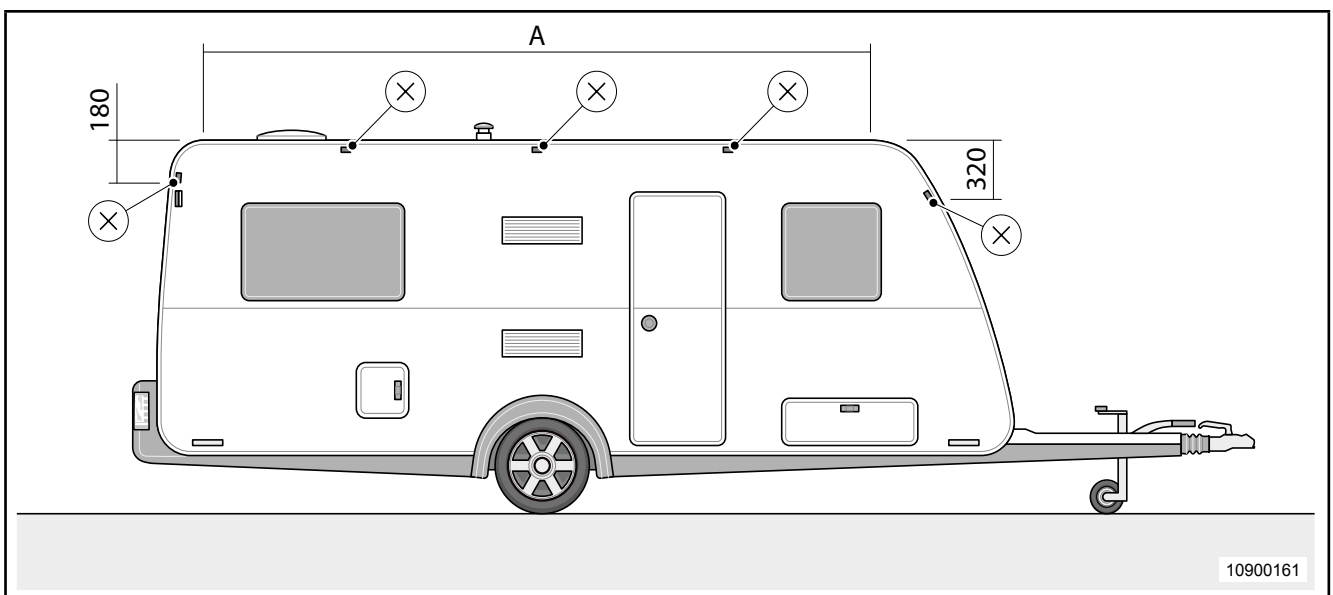

Fig. 7 Mounting the awning eyelets
1. Fix the awning eyelets with self-tapping screws  $\varnothing 3.9 \times 19$  mm V2A as shown in Fig. 7 and seal with Terostat 2729 sealing compound.